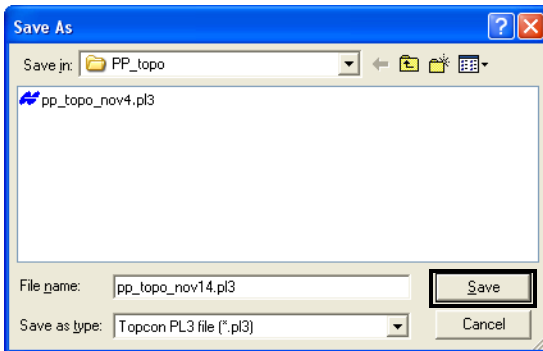

Figure 7-18. Save Plane File
2. On the **Save As** dialog box, type a name for the new plane surface file or select a plane file to replace. Click **OK** to export the file (Figure 7-18).